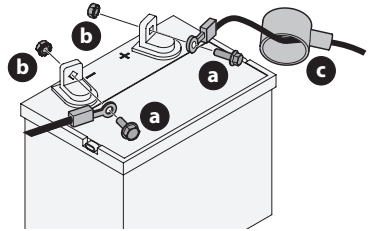

Figure 17
1. If present, remove the plastic cover from the positive battery terminal. Attach the red connector to the positive battery terminal (+) using the bolt (a) and hex nut (b) (Figure 17).
2. Position the red rubber boot (c) over the positive battery terminal (+) to help protect it from corrosion (Figure 17).
3. If present, remove the plastic cover from the negative battery terminal and attach the black cable to the negative battery terminal (-) with the bolt (a) and hex nut (b) (Figure 17).